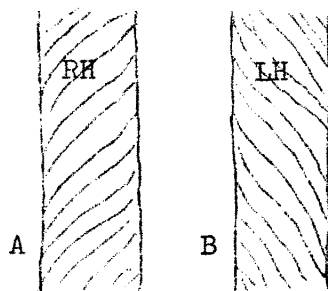

Fig.2
To get good quality smooth cloth of any kind, but particularly in case of wool woven in tabby, we must have two kinds of yarn: the one used for warp must have the direction of twist opposed to the one used for weft. For instance the right hand twist for warp (fig.2 A), and the left hand twist for weft (B). If we enlarge one repeat of